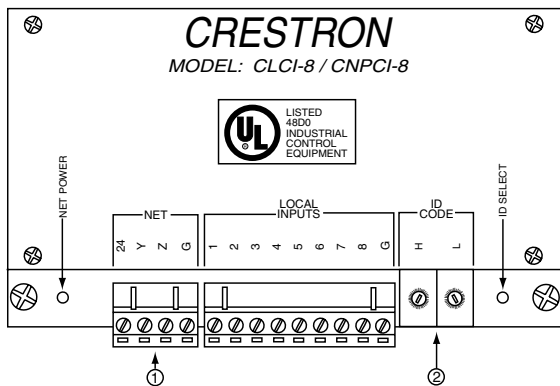

Figure 1
- ① Mount the Control Processor in a safe location, with access to standard 110-120V AC.
- ② The Touch Panel should be mounted per separate instruction section, and wired as indicated in wiring diagrams on page 4. The Touch Panel should be in clear view of the equipment being operated, but should also be in a location that will minimize the chance of damage.
- ③ Mount Relay Panel (s) in locations as desired.
- ④ Set Network I.D. for each relay panel as shown at Point 2 in Figure 1. Turning dial "H" sets the first digit of the network I.D. and turning dial "L" sets the second digit. Each relay panel must have the correct Network I.D. or your system will not function properly. The Network I.D. is indicated on project specific Relay Panel Worksheets that are supplied with the product shipment.
- ⑤ Equipment to be operated should be connected to the relays as indicated on project specific Relay Panel Worksheets that are supplied with the product shipment. Be sure to remove the metal jumpers that are installed between the two poles of each relay. Progressive Sports Construction Group's suggested wiring for each type of equipment is shown in the wiring diagrams found on page 4.
- ⑥ Connect low voltage control wire to Point 1 on Fig. 1. Wire sizes and connections should be as shown on the wiring diagrams on page 4.